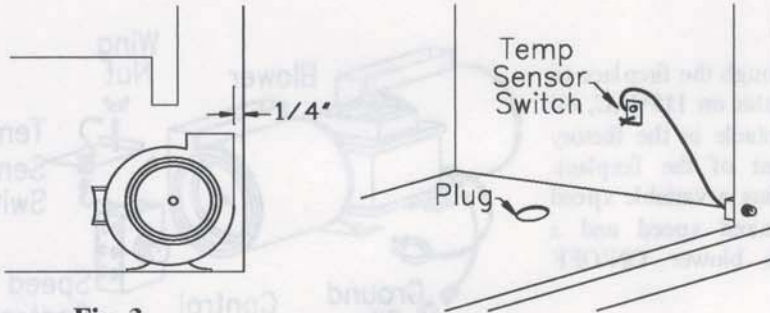

Fig. 3
1. Center the blower all the way to the rear of the fireplace. The blower should be pulled forward approximately 1/8" to 1/4". (Fig. 3) Plug the blower cord into the blower receptacle FAN on the junction box. Attach the ground wire to the bottom of the junction box or to a good metal grounded site.